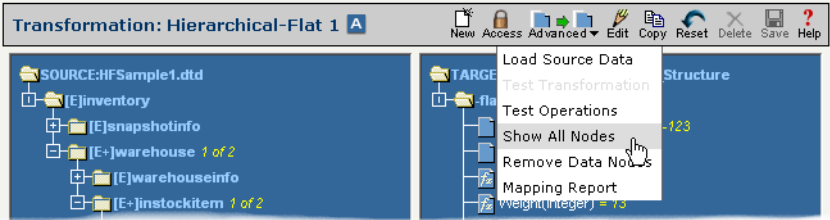

Figure 18-11. Select “Show All Nodes” from the **Advanced** menu icon if you want to display all the transformation map's data elements.
- 3 To return back to the default state that displays all data elements, select “Show All Nodes” from the **Advanced** toolbar item (see Figure 18-11 below).